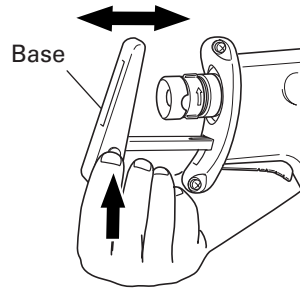

Fig. 11
- (2) Push up the base tip and jog the base back and forth. (Fig. 11)